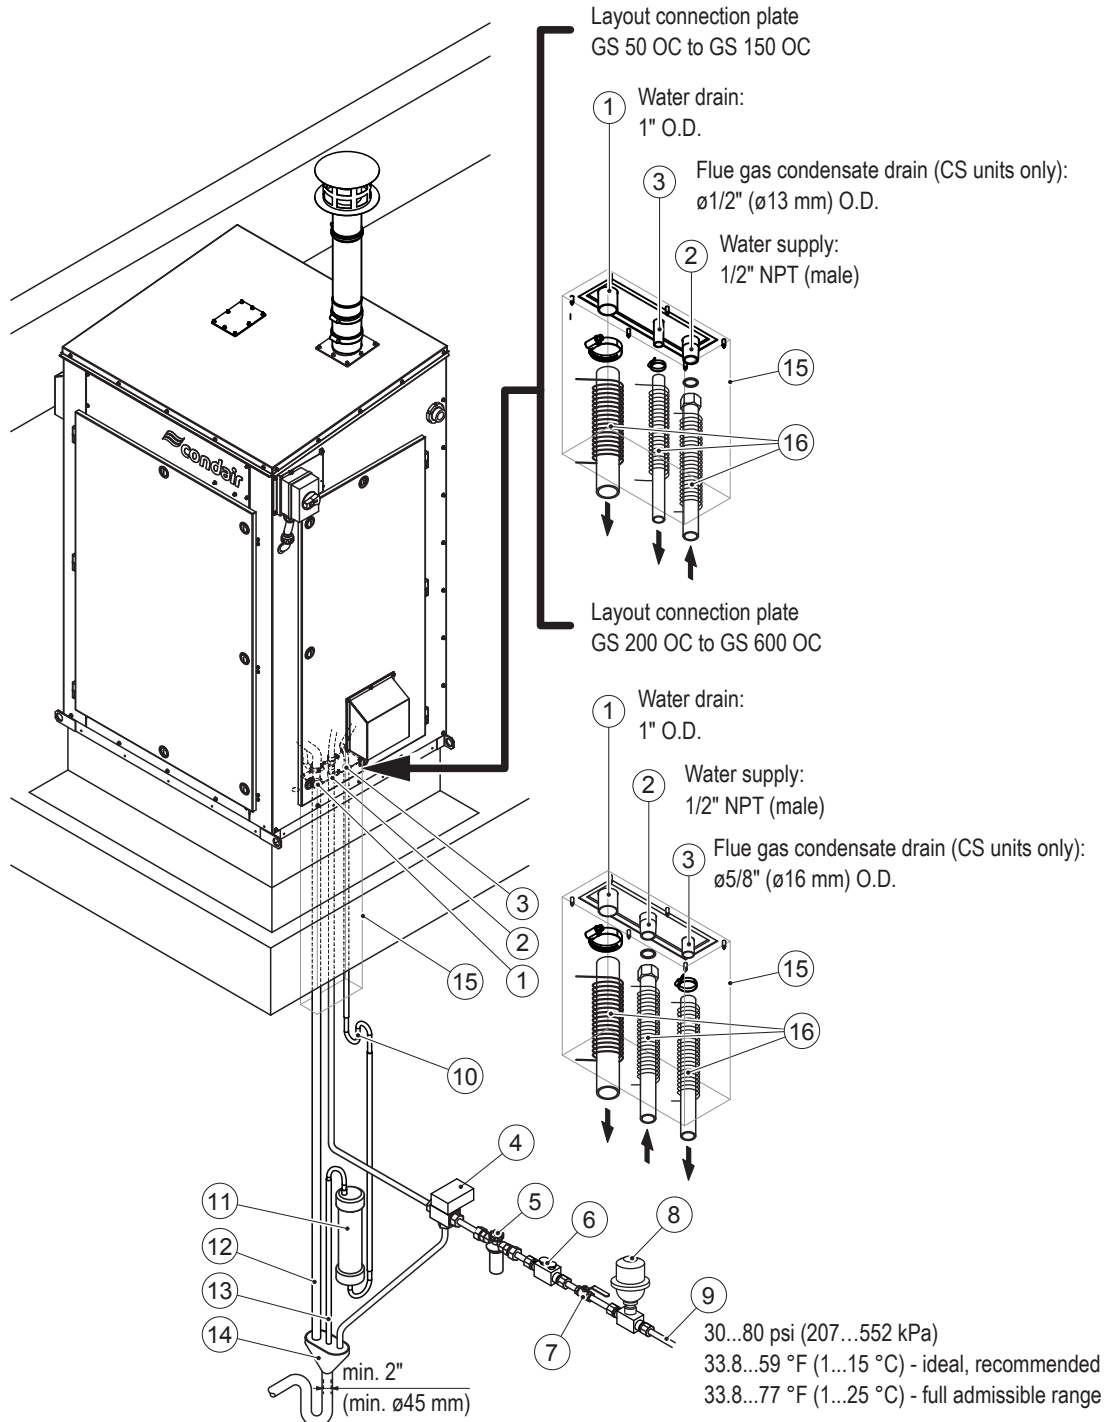

Fig. 12: Overview water installation (Condair GS 150 CS unit shown)
The water installation must be carried out in accordance with Fig. 12, the notes on water installation in Section 5.7.2 and the applicable local codes on water installation.
The water supply is to be carried out according to Fig. 12 on page 38 and the applicable local plumbing codes.
The water drain is to be carried out according to Fig. 12 on page 38 and the applicable local plumbing codes.
The flue gas condensate drain is to be carried out according to Fig. 12 on page 38 and the applicable local plumbing codes.
- Connect a flue gas condensate drain hose (CS/NX models only) to the corresponding connector of the connection plate in the base of the unit, and secure it with a hose clamp – refer to Fig. 12 on page 38. The hose must be rated to 212 °F (100 °C).